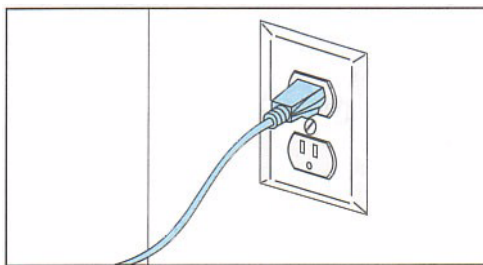

Figure 3: Connecting to a grounded electrical outlet
1. Connect the male end of the supplied power cord directly into a grounded electrical outlet, as shown in Figure 3. (If using a Uninterrupted Power Supply (UPS), connect the cord directly into the UPS).